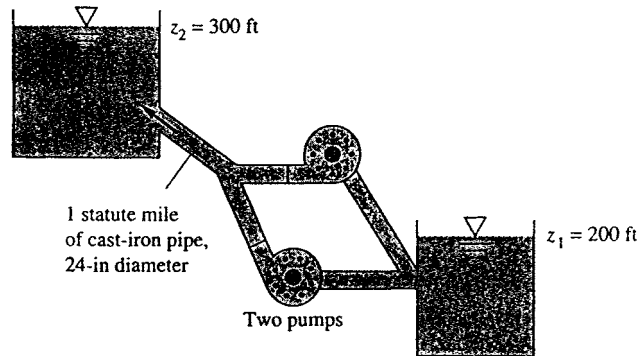

Fig. P11.75
**11.75** Two 35-inch pumps from Fig. 11.7*b* are installed in parallel for the system of Fig. P11.75. Neglect minor losses. For water at 20°C, estimate the flow rate and power required if (a) both pumps are running; and (b) one pump is shut off and isolated.